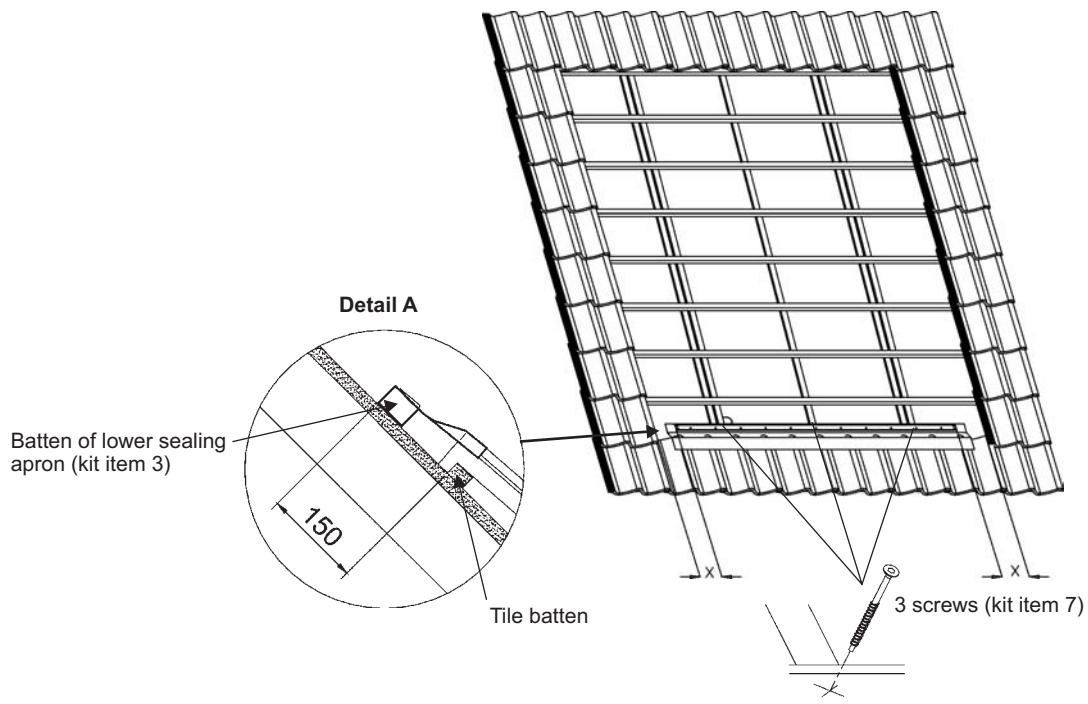

Fig. 5 - Lower sealing apron
- Position the lower sealing apron (kit item 3) centrally leaving an equal gap each side (X). Fasten the sealing apron above the batten for the tiles below as shown in detail 'A', making sure it is level. Secure to the rafters using three of the 70 mm screws provided (kit item 7). See Fig. 5.